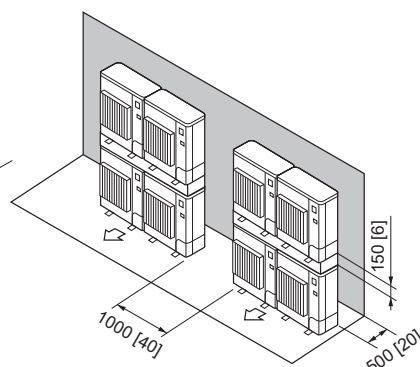

Fig. 2-18
- Stacked unit arrangement (Fig. 2-18)